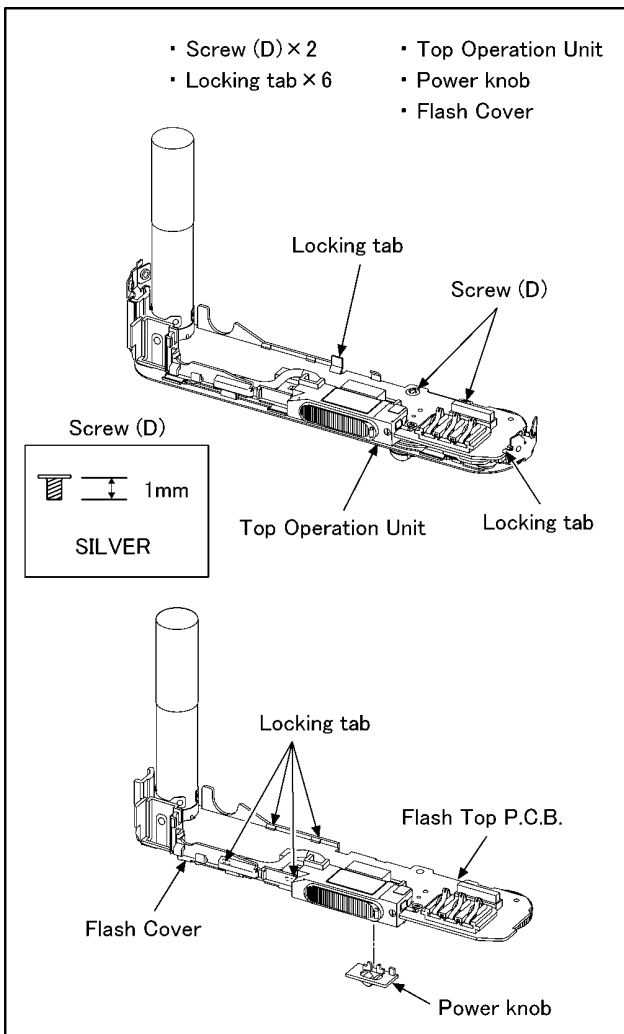
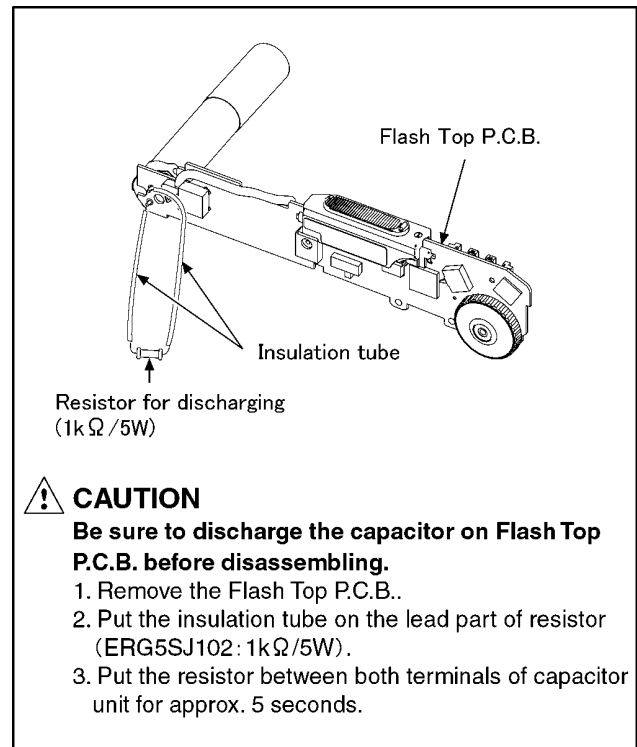

Fig. D6
Fig. D7
| 5   | Flash Top P.C.B.                    | Fig. D6Fig. D7 | 2 Screws (D)                                   |